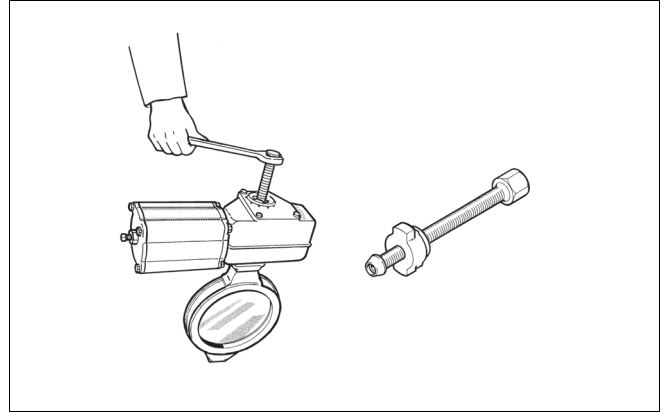

Fig. 20 Removing the actuator with an extractor
- Detach the actuator using a suitable extractor. The correct tool can be ordered from the manufacturer (see Fig. 20).